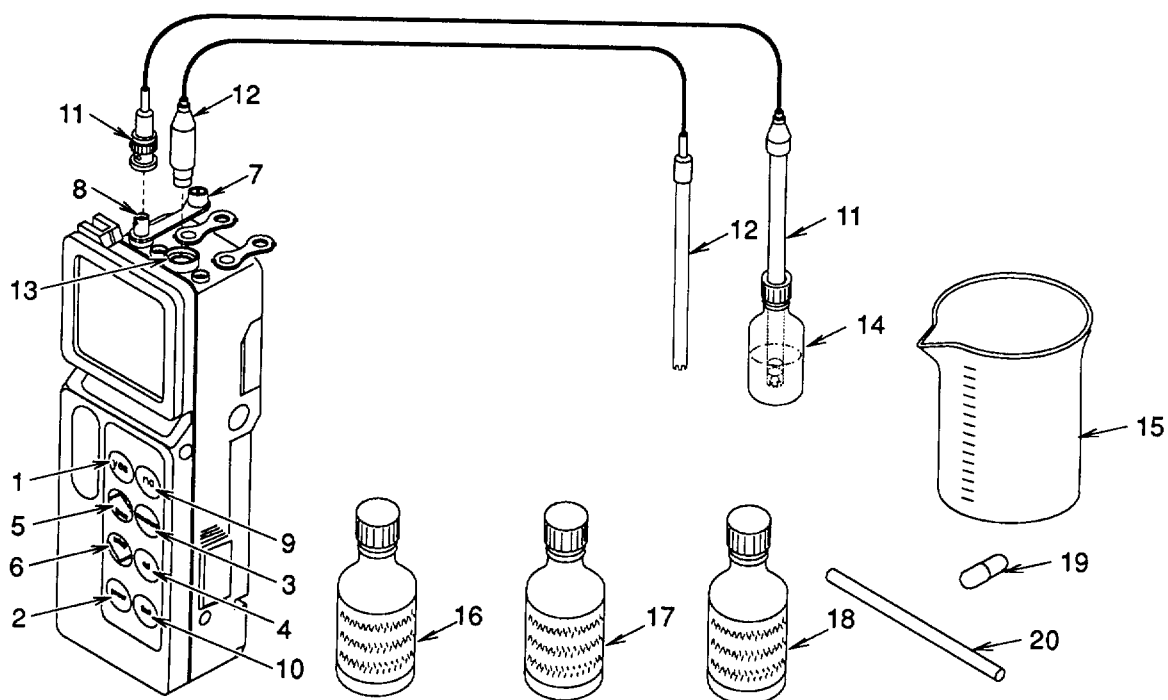

Figure 2-12. pH/Temperature Meter Adjustment
- e. Calibration procedures. See figure 2-12.